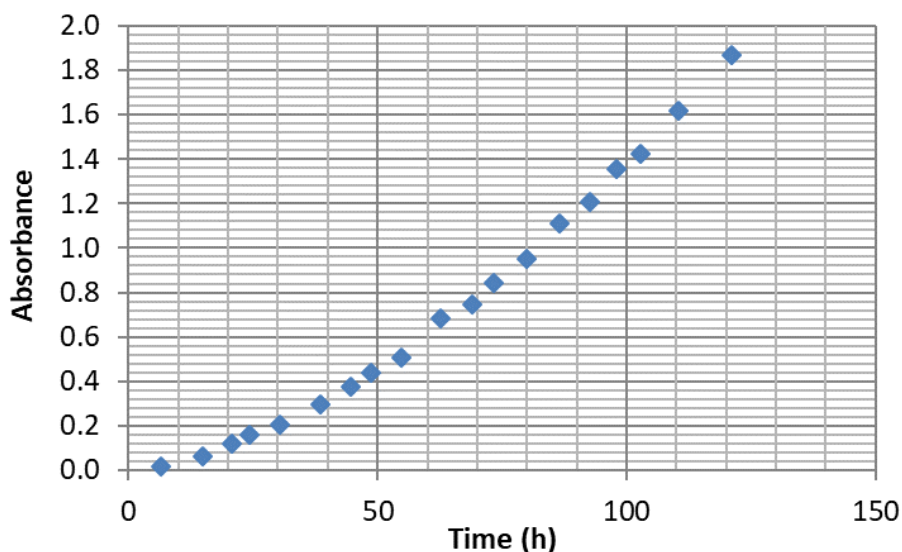

Figure 2: A_{470} (absorbance at 470 nm) as a function of time for the fructose - glycine reaction
A second experiment (B) was carried out by adding $n_{\text{Fru,B},0} = 1$ mol of fructose and $n_{\text{Gly,B},0} = 0.5$ mol of glycine without sodium metabisulphite to a 1 L sodium acetate/acetic acid buffer. A magnetic stirrer was used all along the experiment. Every 6 hours, the absorbance of an aliquot of 1 mL was directly measured at 470 nm in a cell of $l = 1$ cm. The obtained data is shown in figure 2. Given the steps (1) and (2), the concentration of the melanoidin product $[\text{M}]$ can be written as:
8. **Determine** graphically the value of $\left. \frac{dA_{470}}{dt} \right|_{t=80h}$ derivative of A_{470} absorbance at 470 nm at $t = 80$ h based on figure 2.